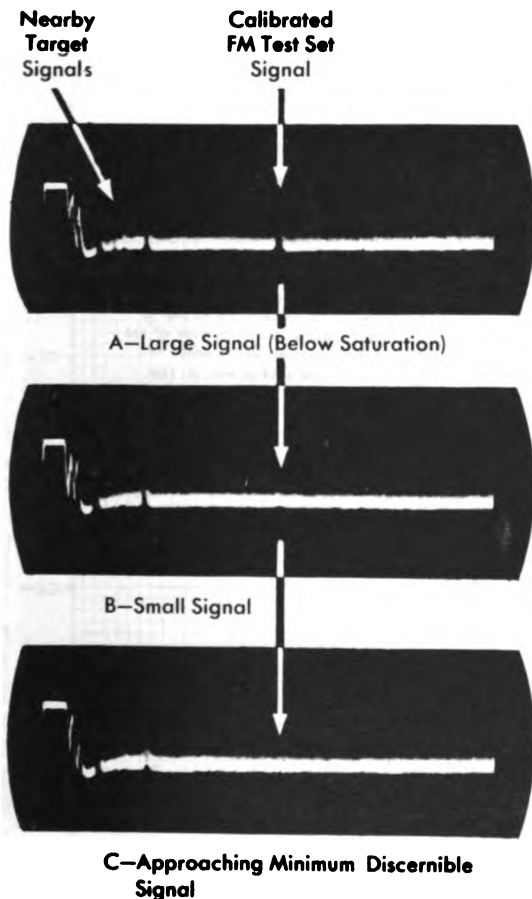

Figure 3-8. Measuring Minimum Discernible Signal Power
(4) CHECK METER BALANCE.—Switch the TEST knob to TRAN and turn the DBM control fully counterclockwise. Then adjust the FINE SET ZERO control until meter reads zero.
(5) FIND SIGNAL AGAIN.—Set the TEST knob to RECV and turn the DBM control clockwise to find the f-m signal again.
(6) SET SIGNAL POWER ON C-W.—Broaden bandpass curve to maximum by turning the SIGNAL WIDTH knob clockwise to CW, while holding the pattern on the screen with the PHASE knob. Detune the frequency meter if necessary. Adjust the POWER SET knob so that the meter pointer is at the SET POWER line.
(7) RETURN TO F-M SIGNAL.—Turn the SIGNAL WIDTH control carefully counterclockwise to MIN, using the PHASE control, if necessary, to keep the same pattern on the scope.
(8) DETERMINE MINIMUM DISCERNIBLE SIGNAL (See figure 3-8).—Turn the DBM attenuator until signal just disappears in noise. When signal becomes as small as in part A of figure 3-8, turn the DBM knob in one-db steps, and move the signal back and forth with the PHASE knob for identification of signal. When the signal is last visible, read the DBM dial.
(9) COMPUTE RECEIVER PERFORMANCE FIGURE.
$$\text{From figure 3-8, } N_{(db)} = 31.5 \text{ db.}$$